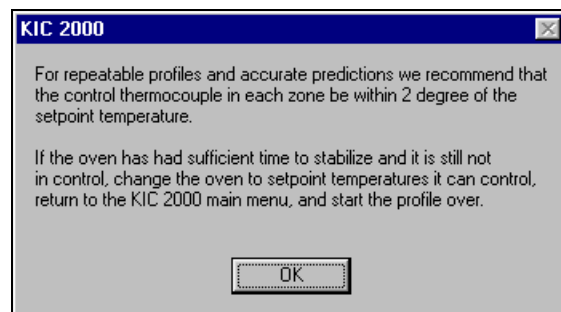

Figure 57
- **If you choose NO**, it will ask you to let the oven stabilize. If the oven has stabilized and it still is not within 2 degrees of the set values, your oven is not able to control to those oven settings. Set the control temperatures it can control, return to the *Main Screen* and start the profile over. See Figure 57.